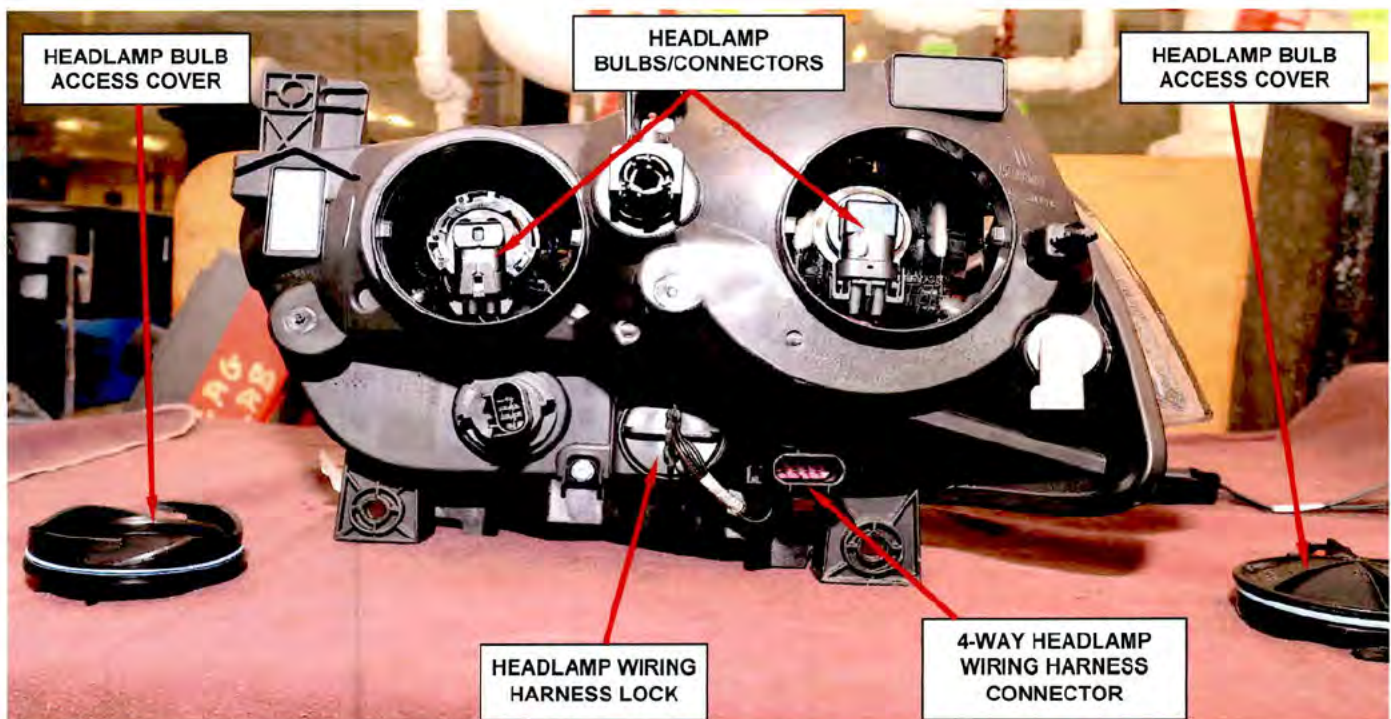

Figure 2 – Headlamp Assembly Bulb Access Covers
4. Disconnect the 4-way headlamp wiring harness connector from the body wiring harness (Figure 2).